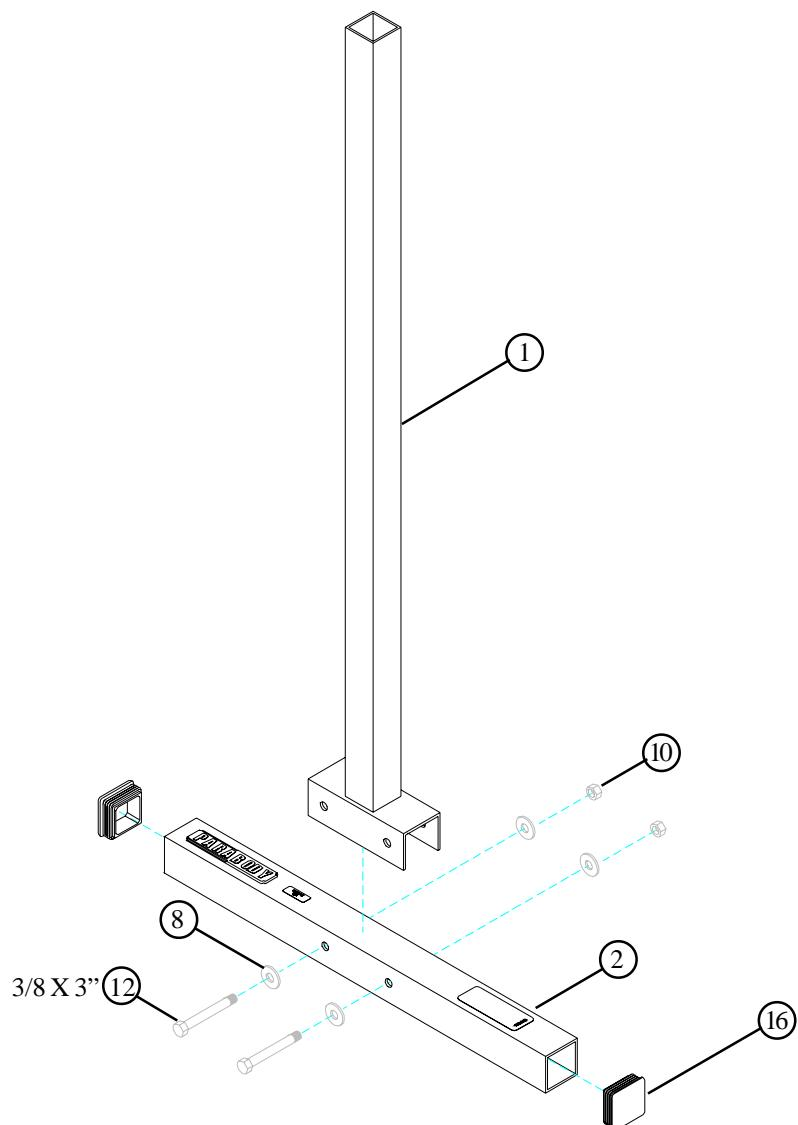

FIGURE 1
- Insert two 2" SQ. END CAPS (16) into the ends of the TUBE (2) as shown in FIGURE 1.
- **SECURELY** assemble the TUBE (2) to the FRONT BASE SUPPORT (1) using two 3/8 X 3" BOLTS (12), four 3/8" WASHERS (8), and two 3/8" LOCK NUTS (10). See FIGURE 1.